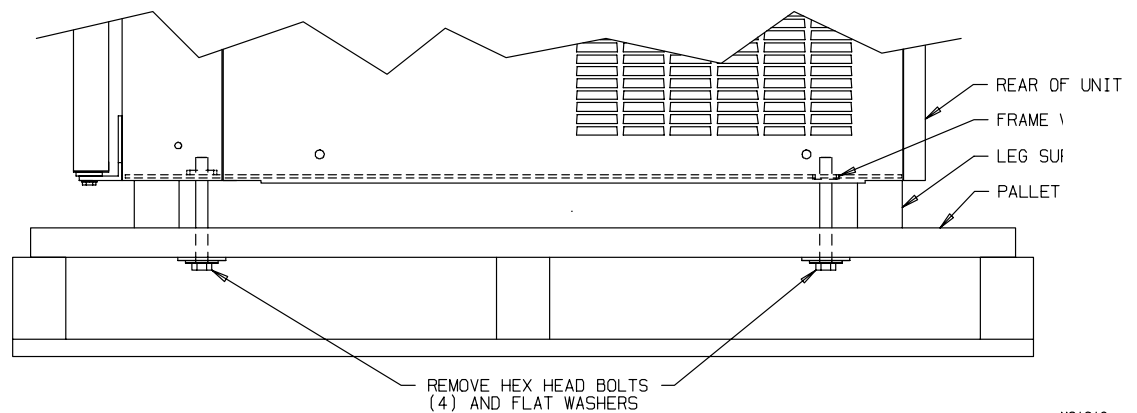

Figure 4-1 Machine bolted to Shipping Base
1. Use caution in handling uncrating tools so as not to mar or dent the cabinet. Do not pierce the crate with a pry bar or similar tool. Note, in Figure 4-1, that the unit is bolted directly to the wooden pallet, or shipping base. Remove these bolts and carefully "walk" the freezer off the wooden pallet.